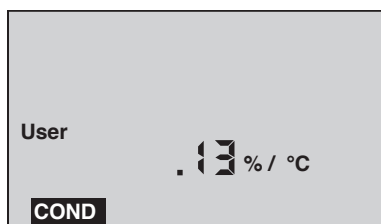

Figure 2
- b. With User mode now selected, press  $\frac{\text{CAL}}{\text{MCLR}}$ . You may now adjust a temperature compensation from .00%/°C to 9.99%/°C, by pressing  $\frac{\blacktriangle}{\text{MS}}$  or  $\frac{\text{MR}}{\blacktriangledown}$ . See example in Figure 2.